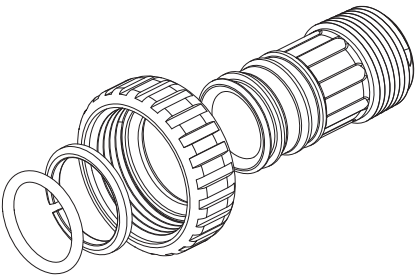

Figure 3
- b) Assemble the 1" NPT male connection fittings before you attach them to the bypass valve. Please refer to Figure 3 below to correctly assemble the connection fitting. Attach connection fittings to the bypass by inserting the connection fittings into the inlet/outlet connections of the bypass valve and hand tightening the fitting nut.